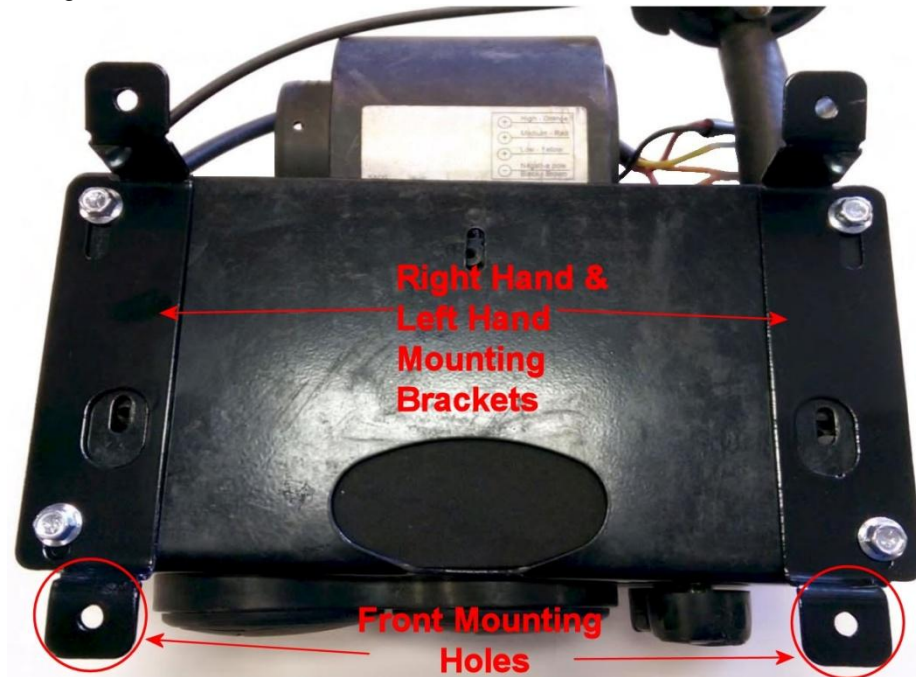

Figure 4
5. Flip the heater over and install the Right Hand and Left Hand Mounting Brackets on the Main Heater Mounting Bracket as shown in Figure 4.